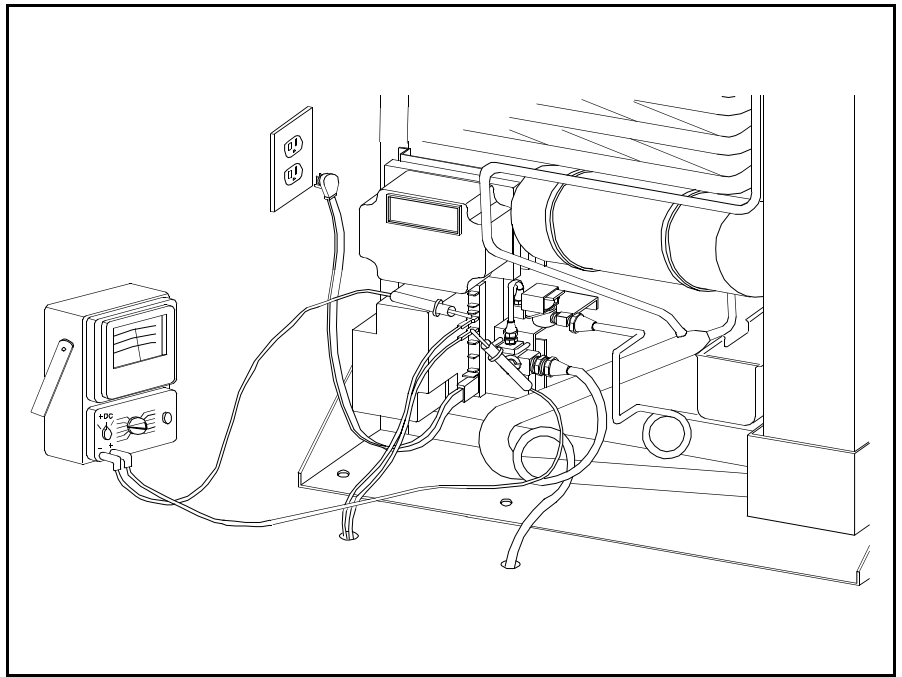

Figure 5.53 12 Volt DC Supply Check
1. Check for 12 volt DC at terminals J4 and J5+ on the Power Supply as shown by Figure 5.53. If +12 volts is not present, repair the 12 volt supply.